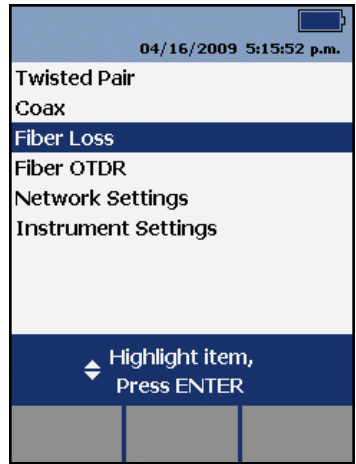
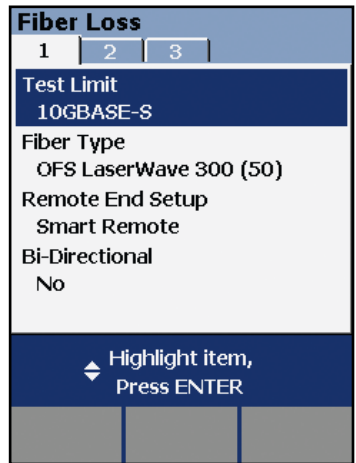

Figure 2a
Figure 2b
b. Select 'Fiber Loss' from the Setup screen as shown in **Figure 2a**. Under this setup screen, you will choose from a menu of standards to select the correct limits. Select the 'Test limit' option as shown in **Figure 2b**. Note that the selected fiber type limits the test limit choices. Popular fiber types are also included in the instrument menu.
As **Figure 2b** shows, the same setup screen allows you to select the 'Remote End Setup'. When using the DTX Smart Remote equipped with the fiber test module, select 'Smart Remote' as we have done in this example. In this mode, the tester automatically measures the length of the link-under-test.
Bidirectional testing. If you want to test each fiber in both directions, do not forget to select that option in the setup screen (see **Figure 2b**). When the tester prompts you to make the connection to test in the second direction, remember to switch the TRC at the link end. DO NOT remove the TRCs from the tester connections.